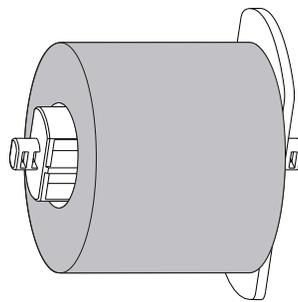

Figure 2-11
3. Slide the Media Roll Guide onto the Media Spindle from the right side with its smooth surface facing towards the media (Figure 2-11).